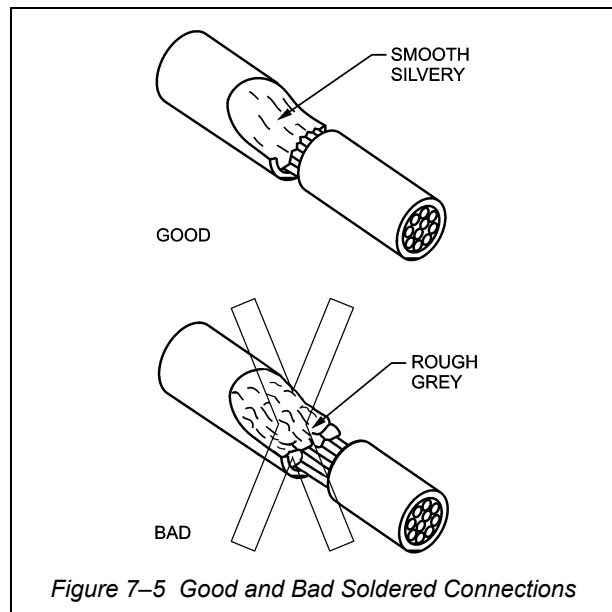

Figure 7-5 Good and Bad Soldered Connections
38. A good soldered joint will have a bright silvery appearance, with smooth fillets and feathered non-sharp, edges. The entire joint will be covered with a smooth even coat of solder, and the contour of the joint will be visible. (See Figure 7-5.)